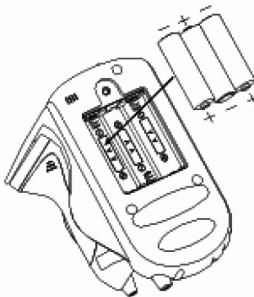

Figure 3
- 2) According to the polarity mark, insert three AA batteries into battery groove, as shown in Figure 3.